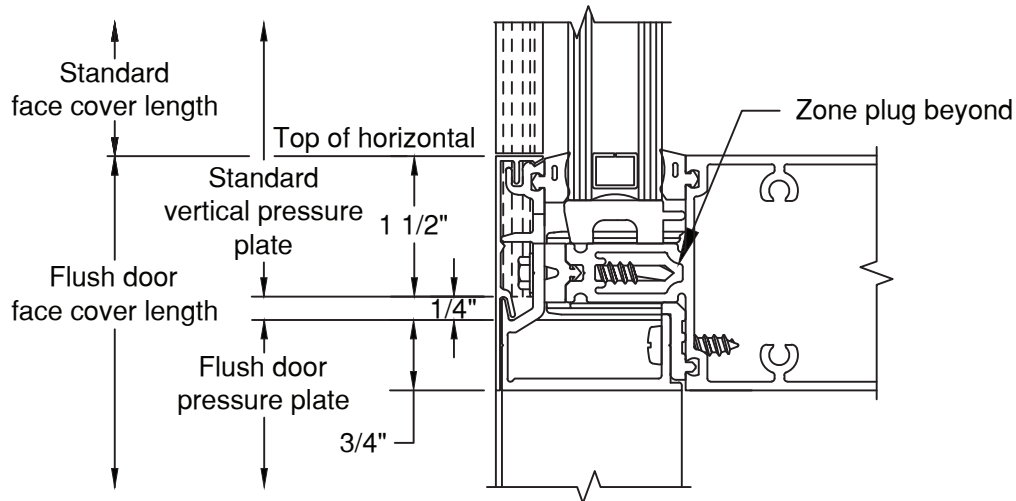

FIGURE 45
C.3.7 Install face covers onto pressure plates. **SEE FIGURE 45.**